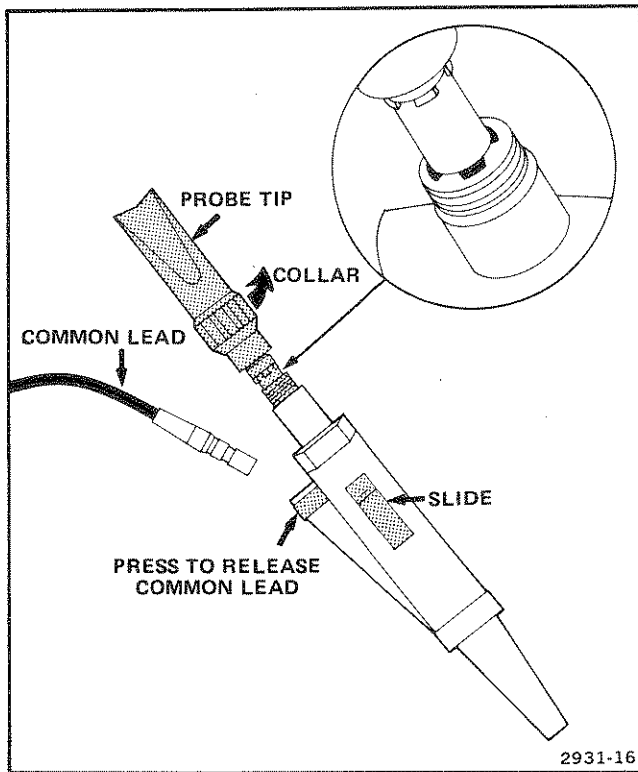

Figure 3-3. Setting the 3000-V probe tip angle and replacing the common lead.
The angle of the 3000-V probe tip may be rotated in 90° increments, if necessary, to make it easier to attach the probe to the circuit under test. To change the probe tip angle, refer to Figure 3-3 and perform the following steps:
To replace the common lead on the 3000-V Probe, press and hold the release point shown in Figure 3-3. Pull the lead out of the probe body and remove pressure from the release point. Install the new common lead by pushing the lead end into the probe body until an audible click is heard.
6. Move the slide forward to the position shown in Figure 3-3 and verify that there is approximately one-eighth inch clearance between the indexing guides on the shaft of the probe tip and the threaded portion of the probe body. If necessary, loosen the probe tip to achieve the correct clearance.